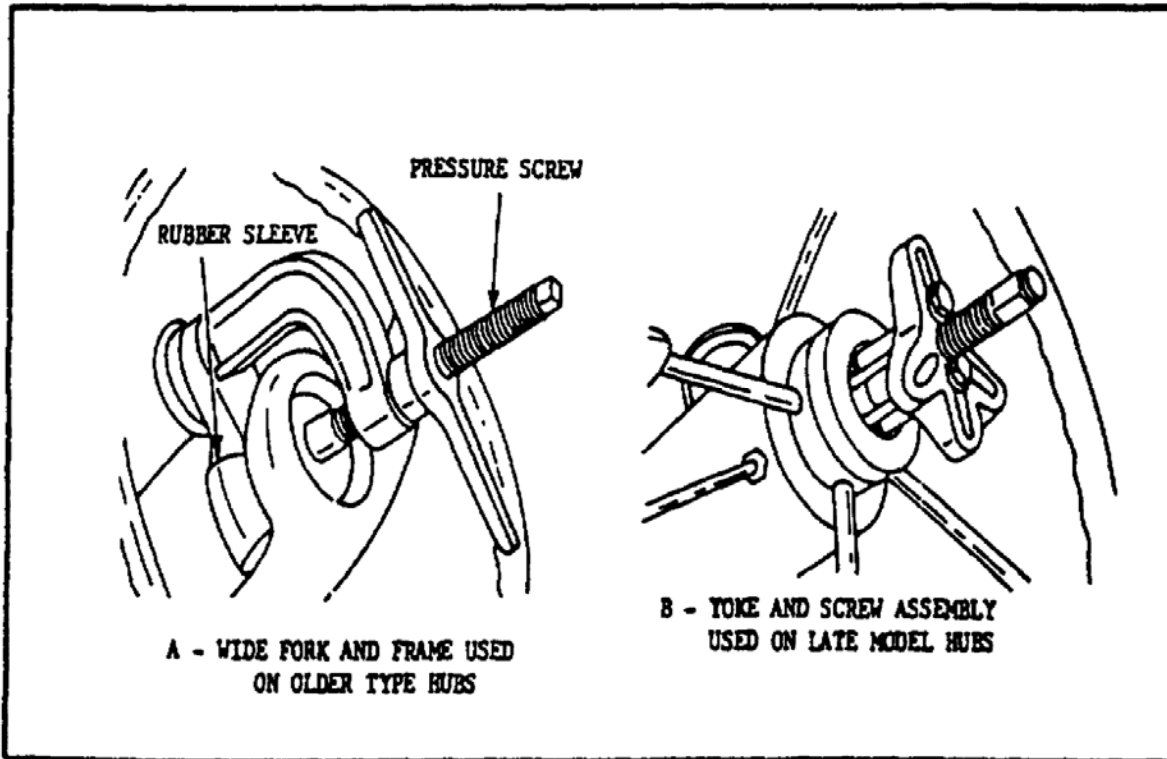

FIGURE 76. USING STEERING WHEEL PULLER SET.
(4) *Steering Wheel Puller*. The steering wheel puller set (figure 76) can be used on all cars and trucks. The yoke puller and its related parts are used to pull the newer models, since they have tapped wheel hubs. The fork puller and its related parts are used on older models. The pressure screw in the frame puller is threaded over its entire length and works through a key. The narrow fork has rubber sleeves to protect the steering column. Adapters protect the shaft from damage. View A of figure 76 illustrates the use of the wide fork and frame puller on older type hubs. View B of figure 76 shows the yoke puller removing a late model steering wheel.